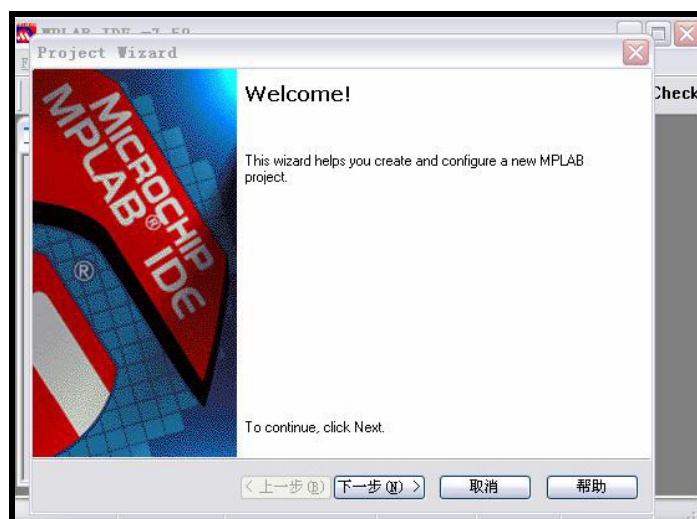

Figure 3-4 Project wizard welcome interface
step 1, Chose menu command **Project→Project Wizard** to come to the Welcome interface shown as Figure 3-4.